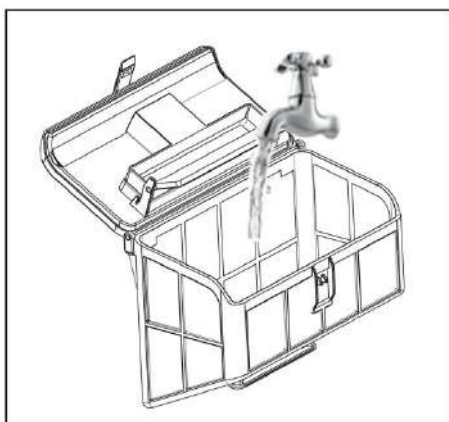

Figure 4-4
4.3.3 Wash filter basket (Figure 4-4)